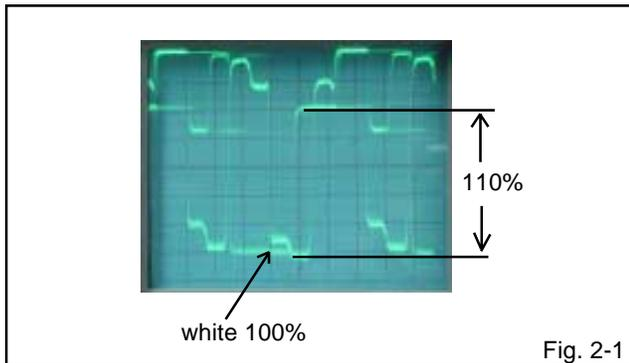

Fig. 2-1
6. Press the VOL. UP/DOWN button on the remote control until the red color level is adjusted to $110 \pm 10\%$ of the white level. **(Refer to Fig. 2-1)**